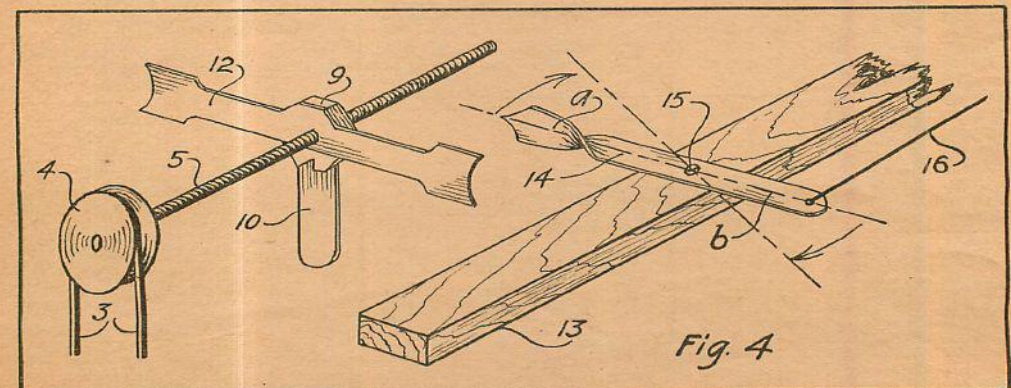

Fig. 4
Figure 4 shows how a small metal strip (12) is at-